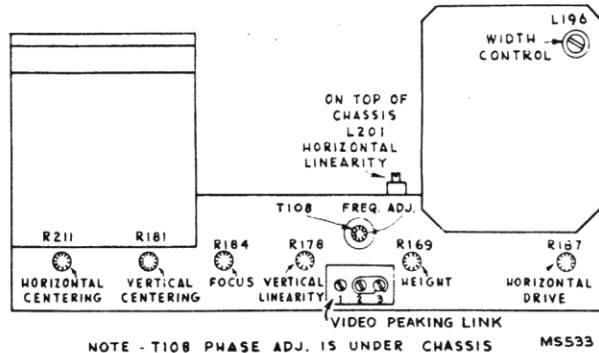

Figure 6—Rear Chassis Adjustments
**FOCUS COIL ADJUSTMENTS**—Turn the centering controls R181 and R211 to mid position. See Figure 6 for location of these rear apron controls.
**VIDEO PEAKING LINK**—A video peaking link is provided (see Figure 6) to permit changing the video response. If the pictures from the majority of stations look better with the link closed, (2-3 position) then the link should be placed in that position. However, if transients are produced on high contrast pictures then the link should be left open (1-2 position).